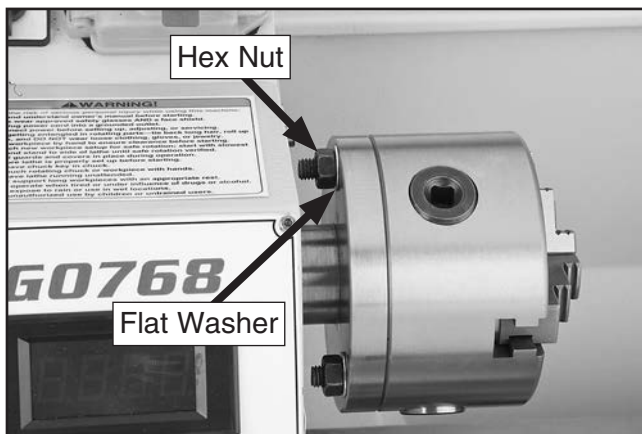

Figure 26. Chuck secured against backplate.
5. Use a lock washer and hex nut on each chuck screw to secure chuck (see **Figure 26**). Tighten hex nuts evenly a small amount at a time and in multiple steps.